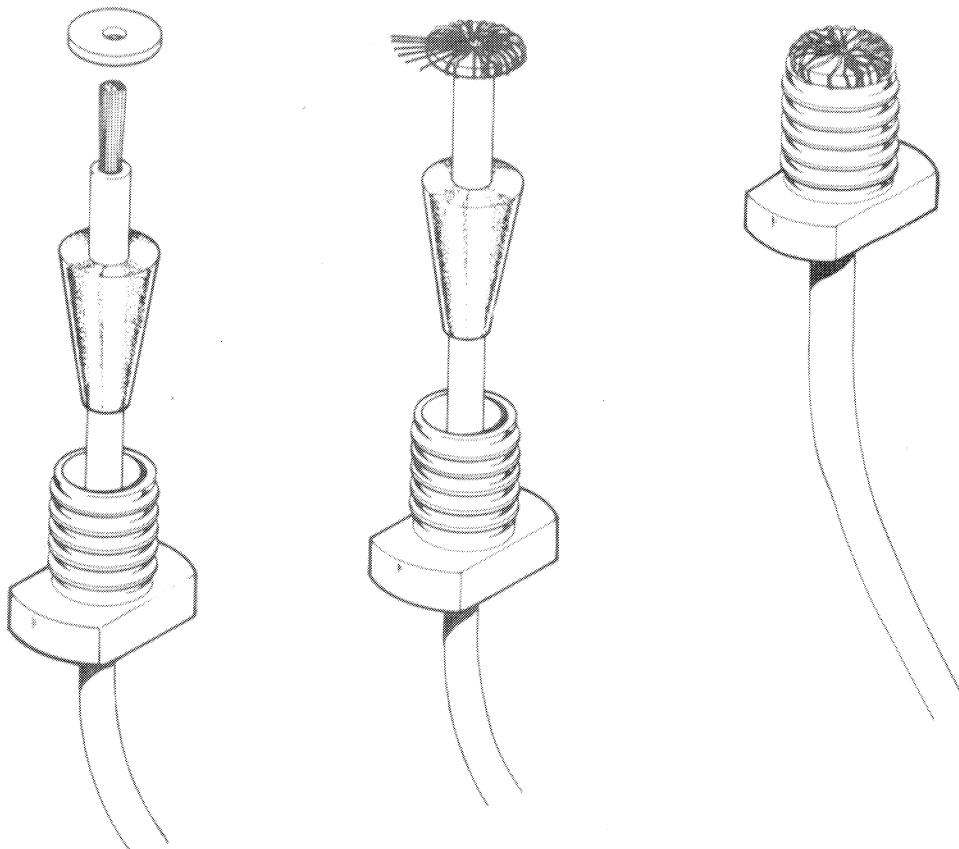

Fig. 17 Preparation of lead, electrical (5995-99-637-0739)
2. From the nut, gland and washer set (5330-99-419-0476) thread the nut, gland and washer over the shorter (12mm) bared end of the lead, electrical (5995-99-637-0739). See fig. 17. Splay the wire strands out round and under the washer. Slide the gland and nut right up to the washer and screw the assembly into the base antenna support (5985-99-633-6118) using the spanner, wrench, lug type (5120-99-103-5591) provided.